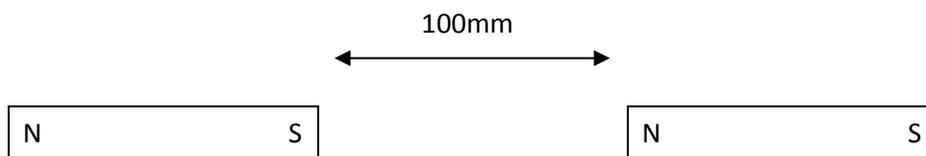

Figure 7
1. Place two rectangular bar magnets approximately 100mm apart on the bench, as shown in Figure 7. The magnets must be arranged to have **unlike poles** facing.